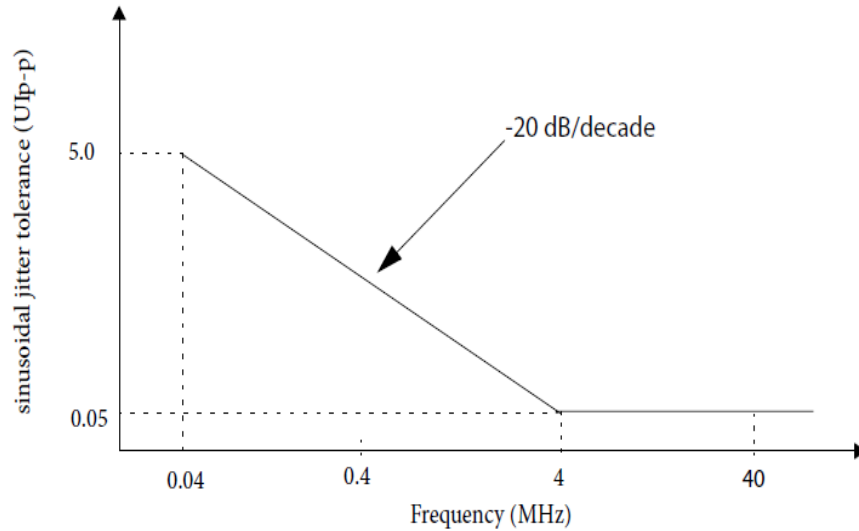

Figure 60. SFI+ SR and LR host receiver input datacom sinusoidal jitter tolerance
1. The 99% jitter is per SFF-8431 Rev4.1 and includes sinusoidal jitter, per Figure 60.